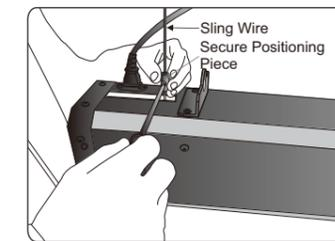

Figure 30
a. Casing upper limitation uses the touching switch, consists of secure positioning piece system. (Refer to description). You just need to loose the screw on the position piece and then fasten again after moving it to the desired position (figure 30).